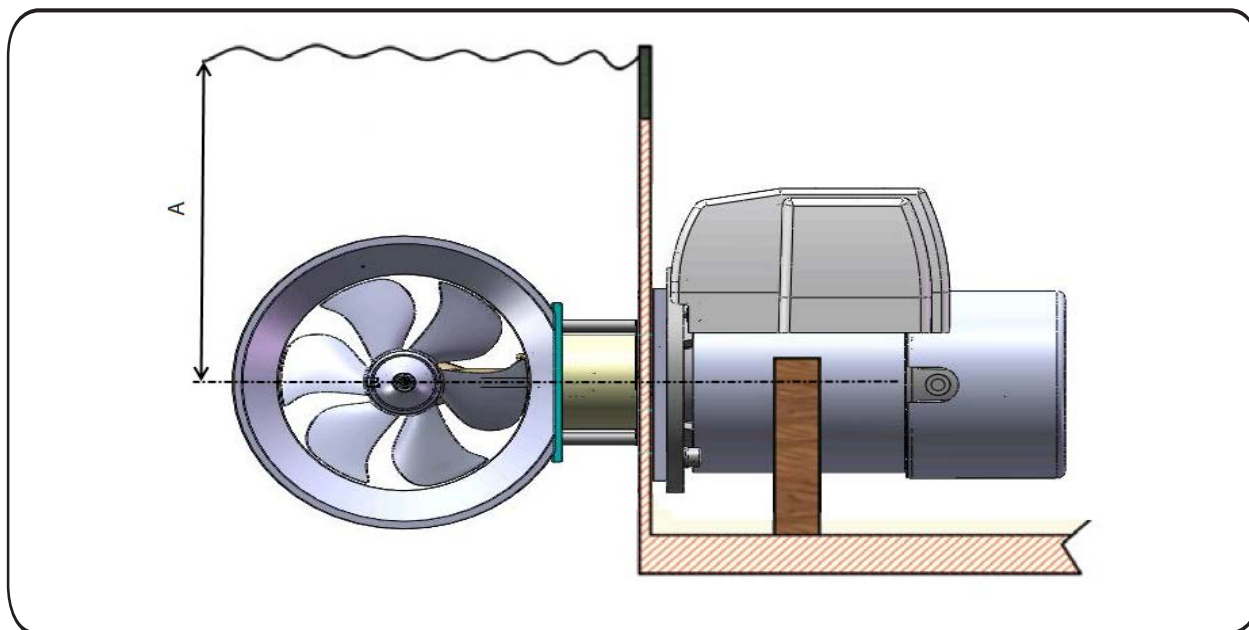

Figure 1
- Refer to Figure 1 to help determine the location for the stern thruster. Allow for a minimum distance from waterline (A) for each thruster model as suggested in Table 1.